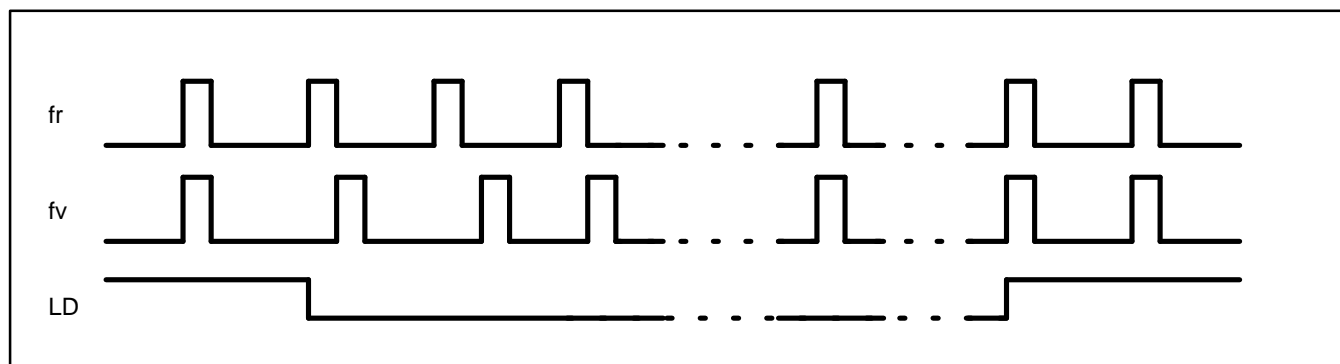

Figure 2. Phase Comparator Input/Output Waveform (Lock Detector)
The lock detector detects the lock and unlock states of the PLL. The lock detector outputs "H" when the PLL enters the lock state and outputs "L" when the PLL enters the unlock state as shown in Figure 2. When pulse width of the error signal is kept zero for four (4) clocks, the lock detector outputs "H" as a lock signal. When it detects phase difference after the PLL is locked, "L" is output at once.